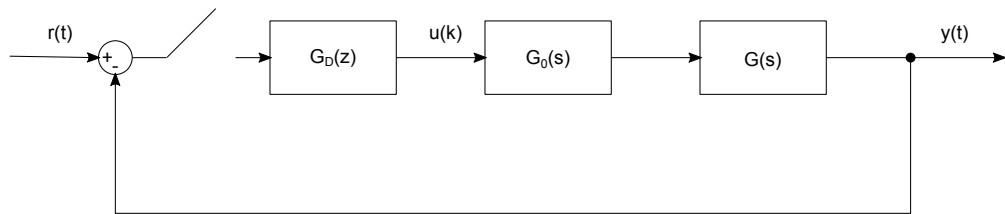

Figure 1: Digital control system
The architecture for the problem is pre-defined. The digital control system, $G_D(z)$, is a Proportional-Integral (PI) controller situated in a unity-gain feedback arrangement. The plant, $G(s)$, is an analogue system and so a digital-to-analogue converter, $G_0(s)$ is needed between the controller and the plant. For analogue-to-digital conversion, the plant is sampled at 1 second intervals. The overall arrangement is shown in Figure 1.